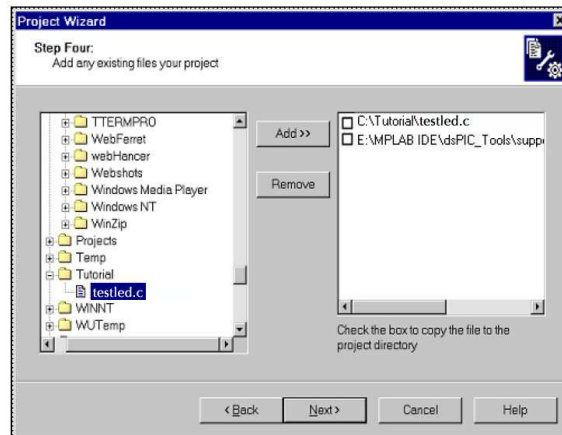

Figure 4: Project wizard, step 4, add files to project.
3. Click Next> to continue. The Project Wizard Step Four dialog displays (see Figure 4).